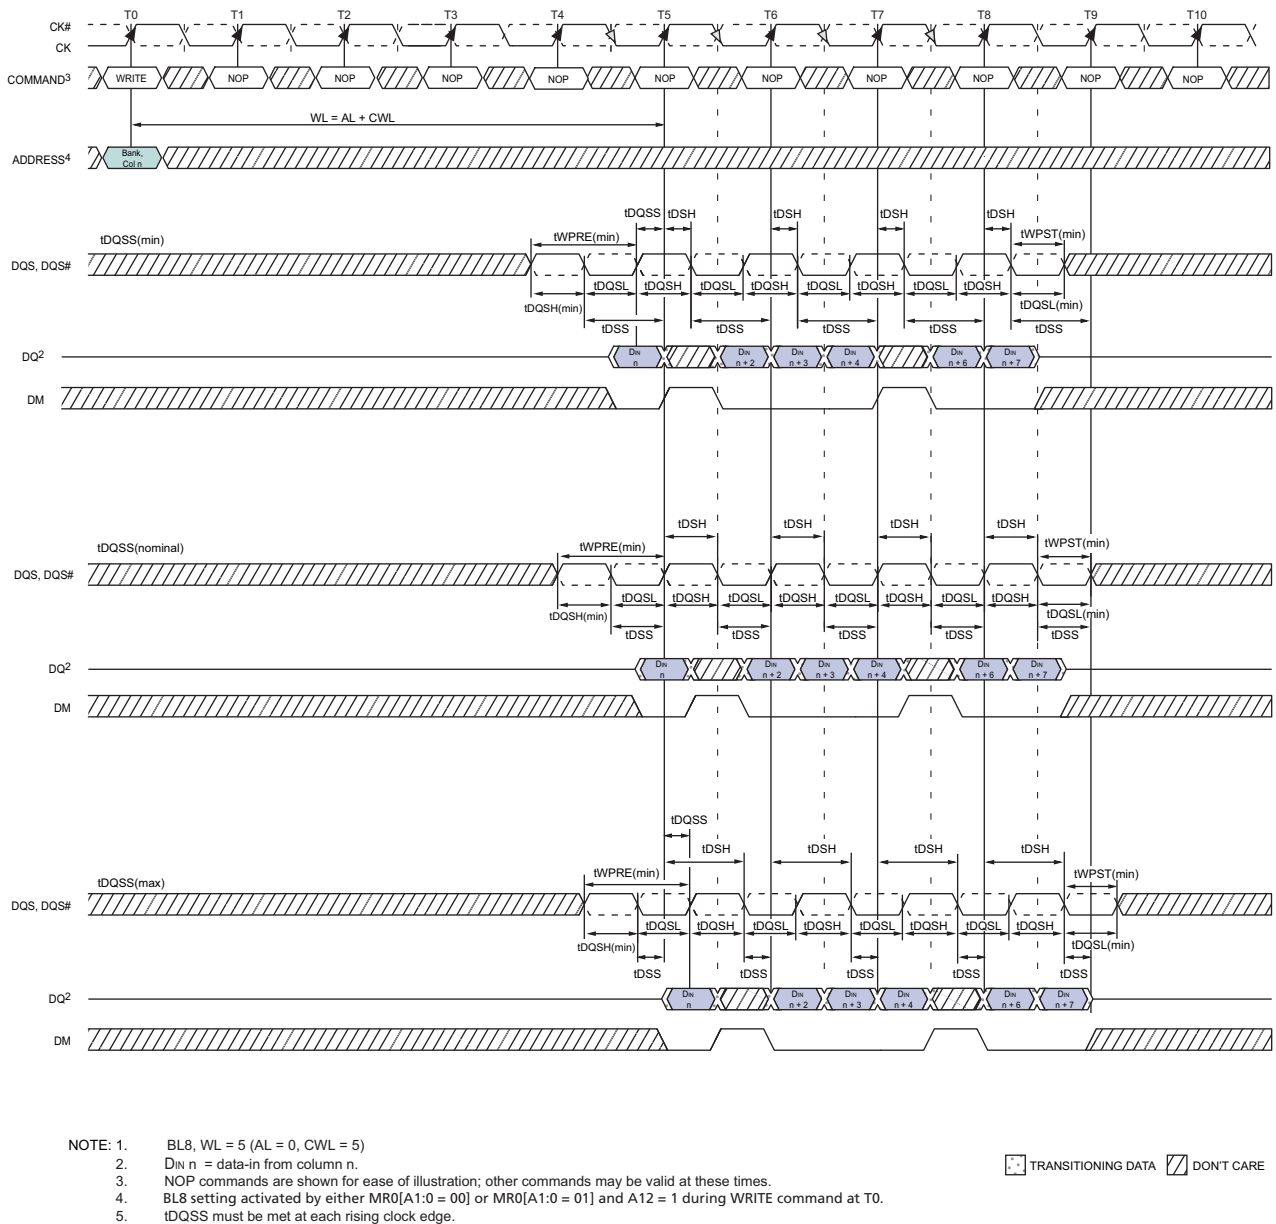

Figure 44 — Write Timing Definition and Parameters
In the example (Figure 44 on page 69), the relevant strobe edges for write burst A are associated with the clock edges: T5, T5.5, T6, T6.5, T7, T7.5, T8, T8.5.
One write data mask (DM) pin for each 8 data bits (DQ) will be supported on DDR3 SDRAMs, consistent with the implementation on DDR2 SDRAMs. It has identical timings on write operations as the data bits as shown in Figure 44, and though used in a unidirectional manner, is internally loaded identically to data bits to ensure matched system timing. DM is not used during read cycles for any bit organizations including x4, x8, and x16, however, DM of x8 bit organization can be used as TDQS during write cycles if enabled by the $MR1[A11]$ setting. See 3.4.3.7 “TDQS, TDQS#” on page 29 for more details on TDQS vs. DM operations.